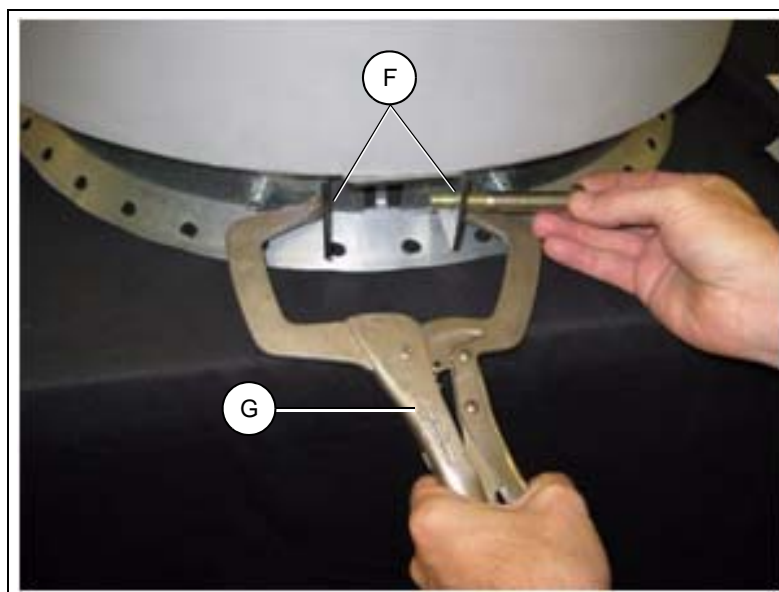
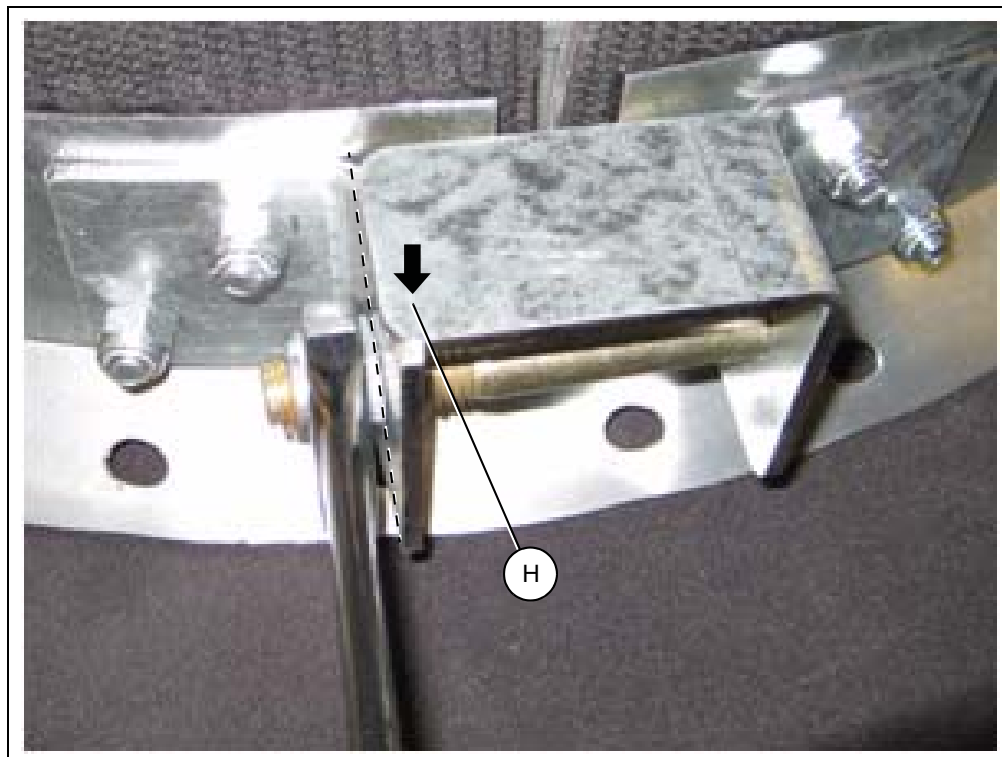

Figure 11C Mount Lid to Peak Ring
Figure 11E Tighten Bolts Until Flush with Bracket
2. Place the lid assembly over the existing peak ring collar and rotate lid assembly such that the lever arm and spring hinge line up with the roof eave bracket, See Figure 11A on Page 55. Use a clamp to pull the mounting brackets together. Slide the 3/8" carriage bolt supplied through the mounting bracket and loosely fasten with nut, See Figure 11C. Remove clamp and tighten the bolt with 9/16" ratchet, ensuring that the vertical flange tightens past the left edge of the top, horizontal flange, See Figure 11E on Page 57.